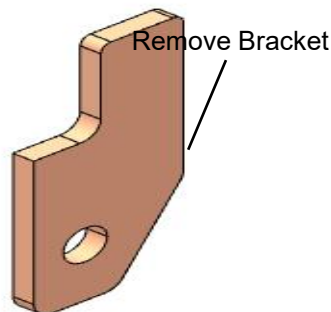

FIG. 1
1. If installing rope feed on a previously assembled mill, remove existing end stop bracket as shown in FIG. 1.